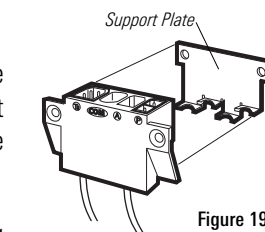

Figure 19
3. Snap the support plate onto the rear of the connector holder (Figure 19).